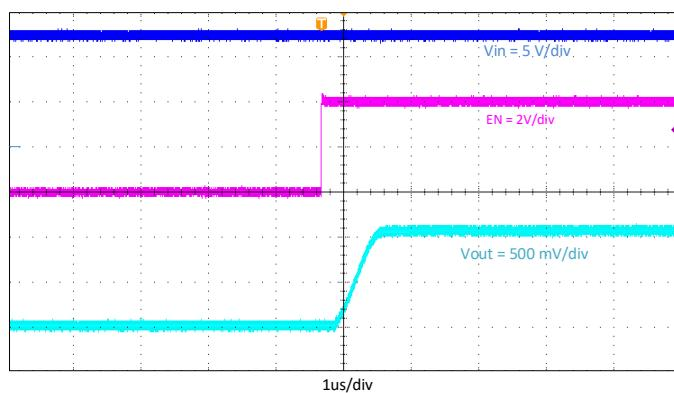

Figure 4-11. TPS562207EVM Start-Up Relative to EN
The TPS562207EVM start-up waveform relative to enable (EN) is shown in Figure 4-11. Load = 2 A.